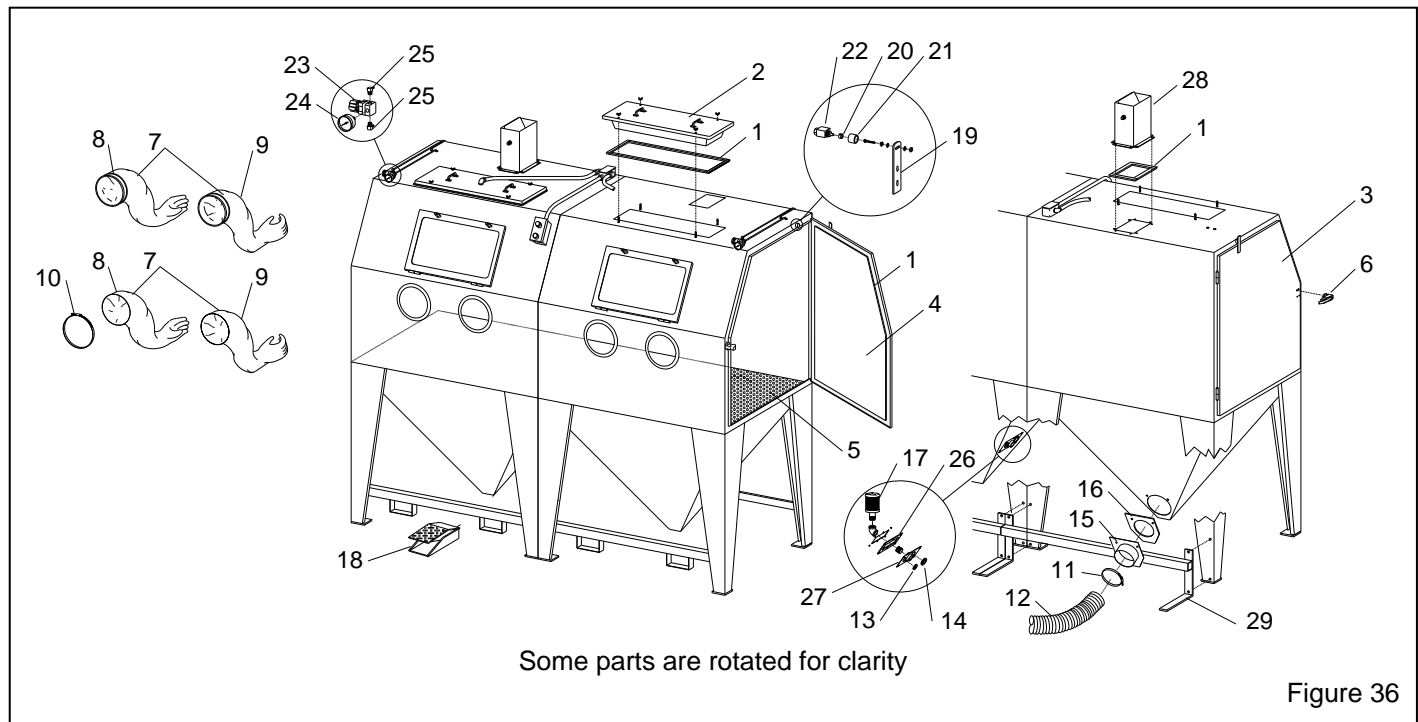

Figure 36
9.7 Cabinet Replacement Parts, Figure 36